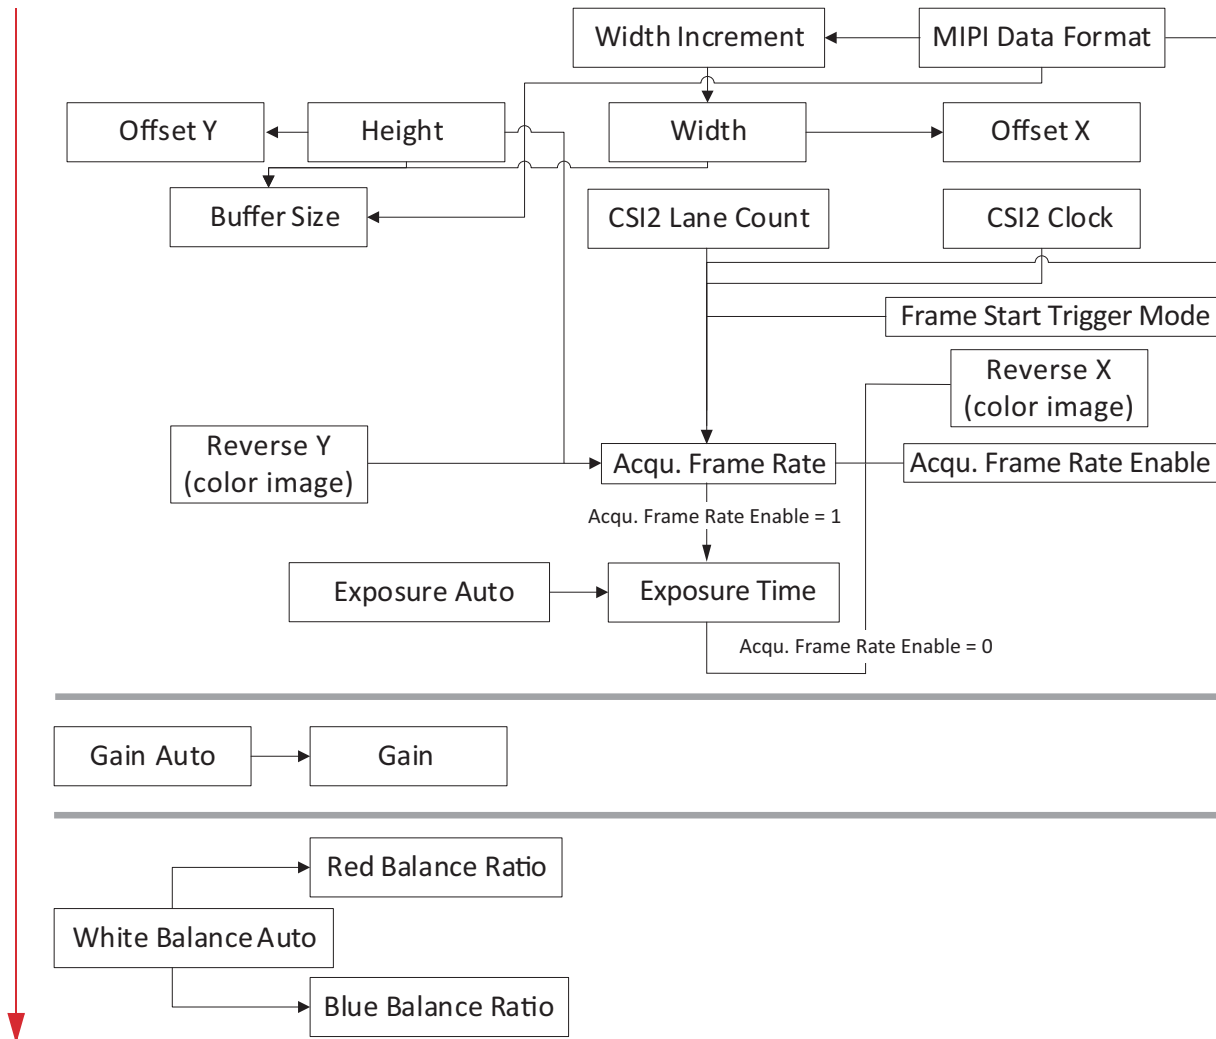

Figure 81: Interdependencies between controls
The conversion between time and clock cycles affects control values. Controls for pixel format, bandwidth, cropping (ROI), and exposure time are related to each other. Changing values for one control can change values for another control. For example, frame rates can be reduced when MIPI Data Format is changed subsequently. Figure 81 shows the interdependencies.
- To avoid readjustments, apply settings in the order shown in Figure 81.